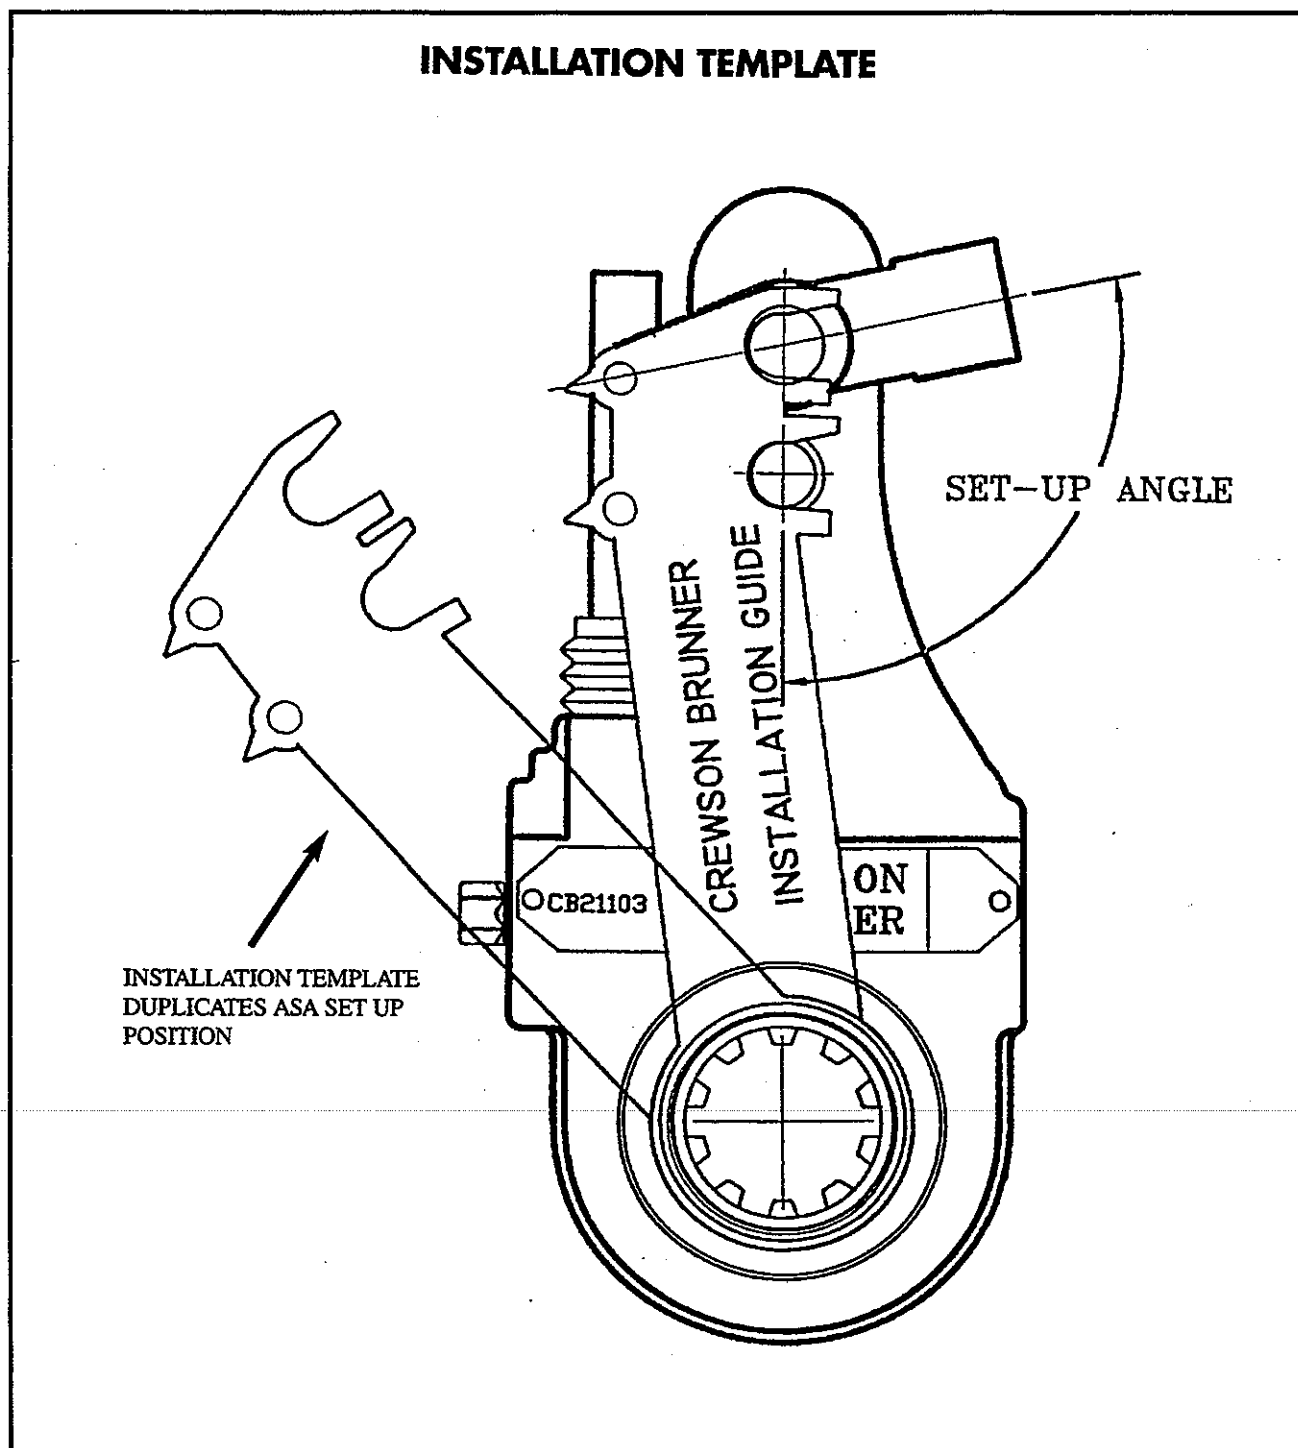

Figure 28—Installation Template
- Template now indicates correct setup angle A. (See Figure 28—Installation Template.)